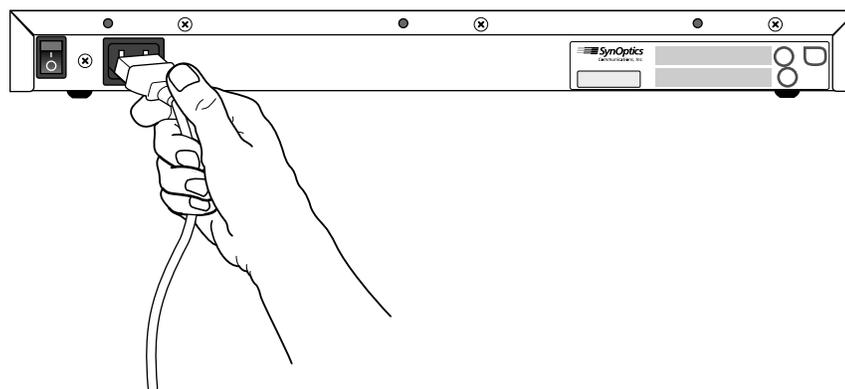

Figure 2-7. Connecting Power Cord
3. **Connect the power cord, first to the power entry receptacle on the back of the concentrator (see Figure 2-7) and then to the power outlet.**